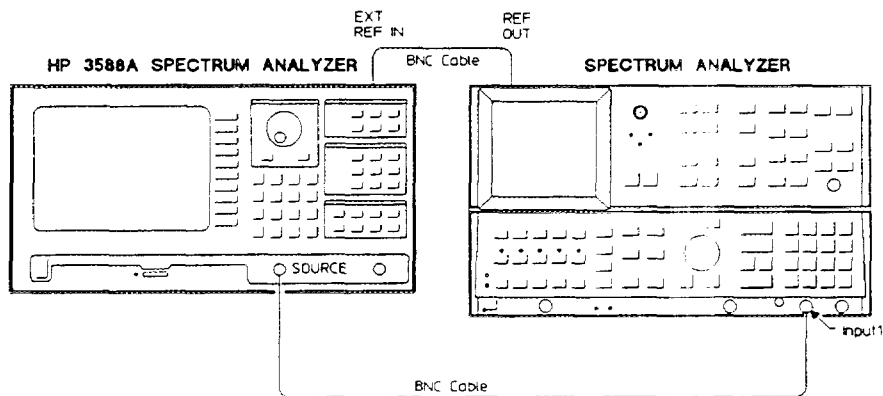

Figure 3-17. Source Harmonic Distortion Setup
1. Connect the test equipment as shown in figure 3-17.